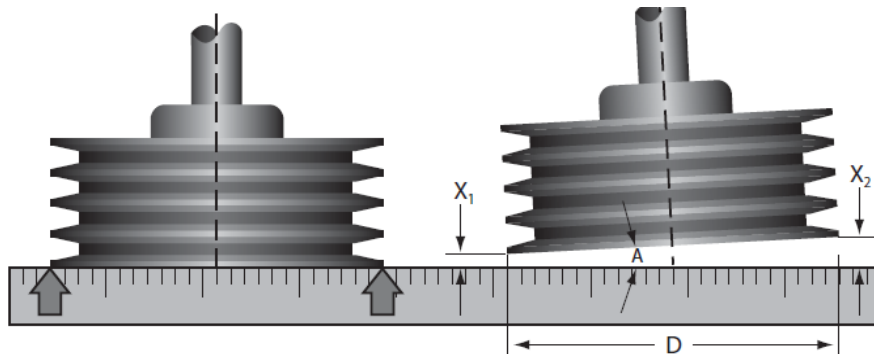

FIGURE 8-3 Measuring Angular Misalignment
2. Unlatch and remove the door panel opposite to the main cooling fan panel to gain access to the v-belt system, see Figure 8-3 for details.
12. Check the sheave alignment, refer to Sheave Set Alignment Figure 8-3.